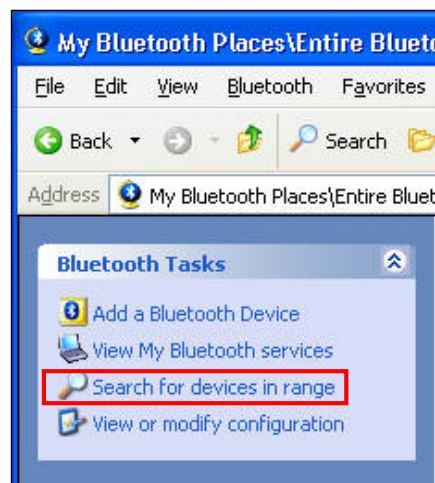

Figure 41: My Bluetooth Places\Search for devices in range
4. Right-click the Bluetooth icon on the Windows taskbar and select Explore My Bluetooth Places from the pop-up menu to open the My Bluetooth Places dialog box (see Figure 41).